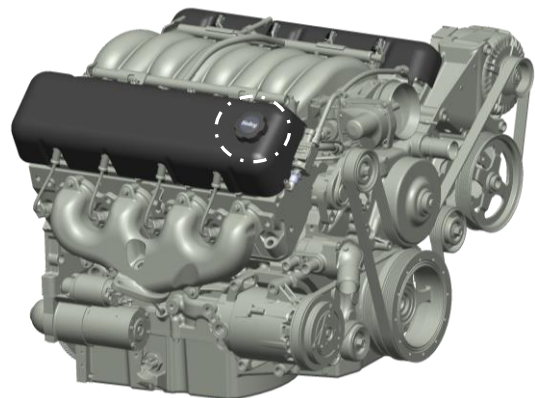

Figure 5
- A. The supplied fill tube adapter and original fill cap can be installed to provide easier access when adding oil (**Figure 5**).